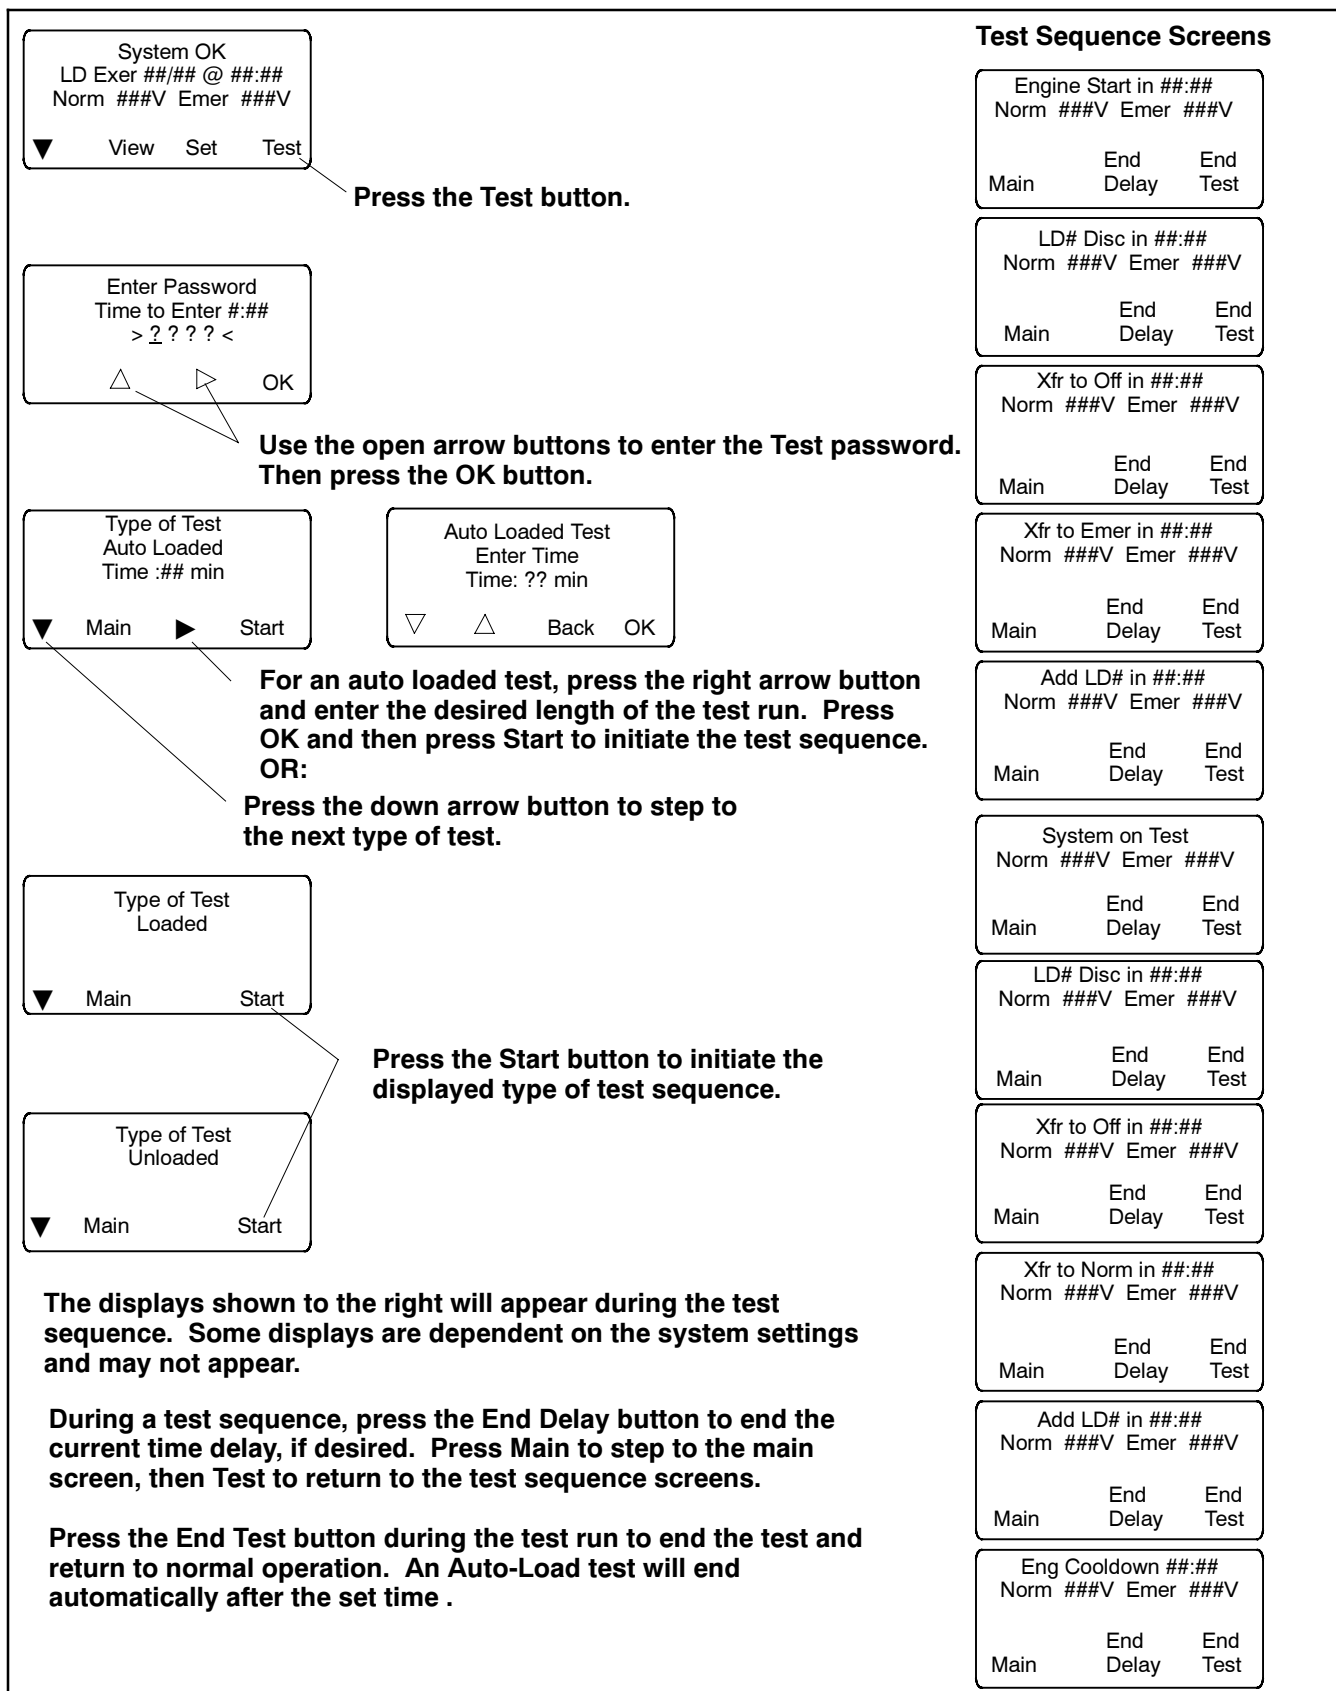

Figure 3-12 Test Sequence Screens
3. Refer to Figure 3-12. From the main screen, press the Test button. Enter the test password when prompted and press OK.